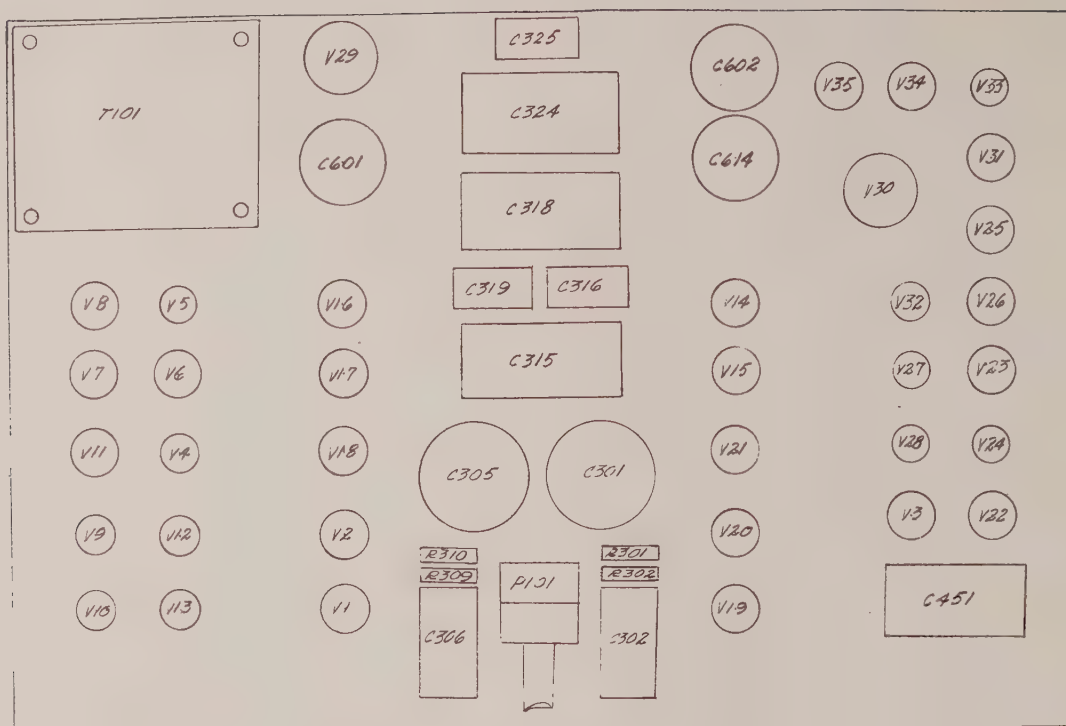

FIGURE 3 - TOP VIEW OF CHASSIS
- (b) Short circuits in the filter condensers, C601 and C602, used in the unregulated portion of the power supply can best be detected by connecting an ohmmeter across the terminals directly. See Figure 3 for their location.